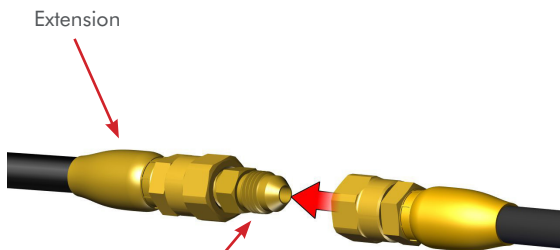

Figure 2
STEP 4 Now remove dust cap from male fitting on the (Up) labeled hose extension and finger tighten the female fitting from the Power-Pole anchor labeled (UP) onto it. **(FIG. 2 & 3)**